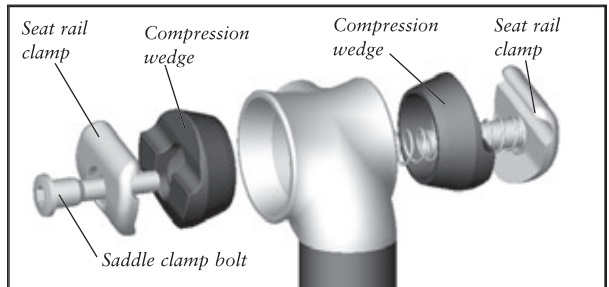

Figure 4- Exploded view of saddle clamp
1. Loosen the saddle clamp bolt (Figure 4).
3. Make sure the minimum insertion mark (Figure 4) on the seatpost is not visible above the bike frame. A minimum of 2 1/2 inches (64 mm) of seatpost must remain in the frame.